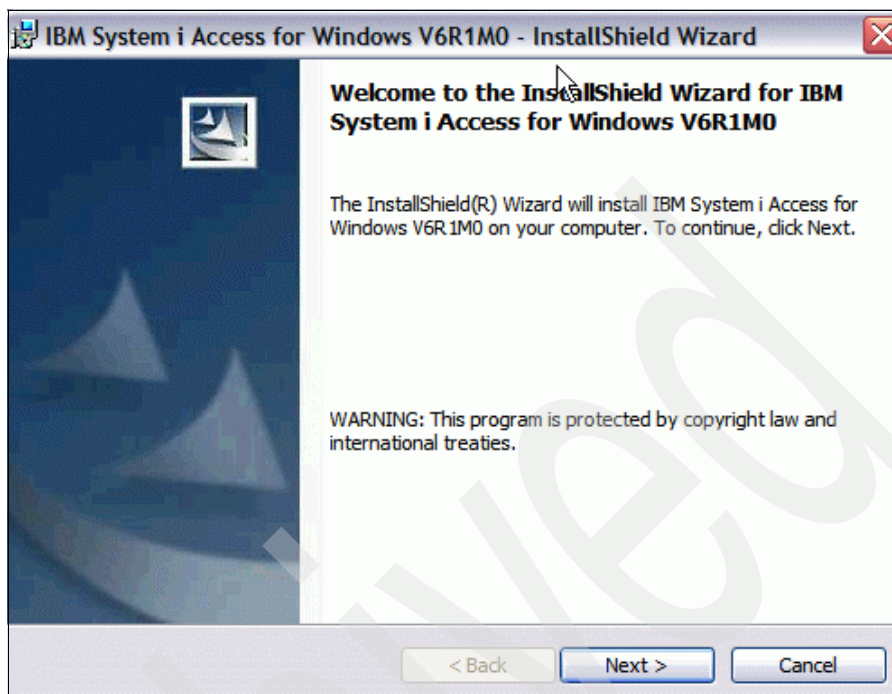

Figure 7-11 IBM System i Access for Windows welcome window
2. The InstallShield Wizard Welcome window, shown in Figure 7-11 on page 255, opens. Click **Next** to continue.